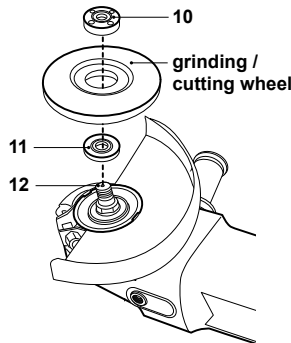

Fig. 13
3. Remove the locking flange (10) from the spindle (12).
4. Holding the product with spindle facing upwards, fit the backing flange (11) onto the spindle and ensure it is correctly located. The two machined flat sections must face the product and locate in the appropriate position on the spindle (12).
5. Place the wheel onto the spindle (12) with the label facing the product. The hole in the wheel should locate onto the spindle (12) and fit firmly into the protruding section of the backing flange (11) (Fig. 13).